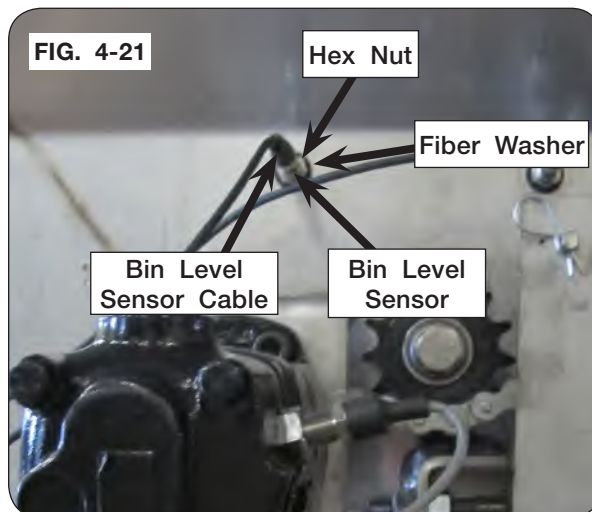

FIG. 4-21
5. Outside of the box, attach bin level sensor to the panel using fiber washer (9008810) and remaining hex nut. (FIG. 4-21)
6. Plug bin level sensor cable (9009180) into bin level sensor and connect other end of cable to wiring harness. (FIG. 4-21)